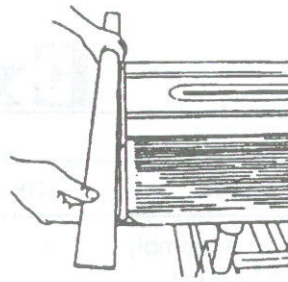
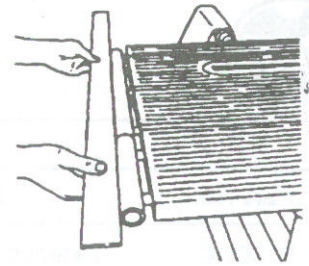

Fig.6
Fig.7
7. Hold a straightedge against the infeed edge of both the worktable and extension table. Fig.6 shows Model 500 and Fig.7 shows Model 510.